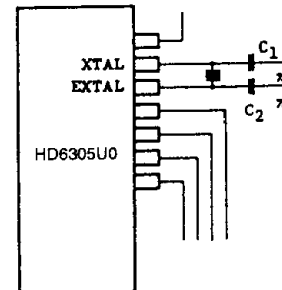

Figure 34 Design of Oscillation Circuit Board
- (1) Locate crystal, ceramic resonator, and load capacity C1 and C2 as near the LSI as possible. (Induction of noise from outside to the XTAL and EXTAL pins may cause trouble in oscillation.)
- (2) Wire the signal lines to the neighboring XTAL and EXTAL pins as far apart as possible.
- (3) Board design of situating signal lines or power supply lines near the oscillator circuit as shown as Figure 35, should not be used because of trouble in oscillation by induction. The resistor between the XTAL and EXTAL, and pins close to them should be 10MΩ or more. The circuit in Fig. 34 is an example of good board design.